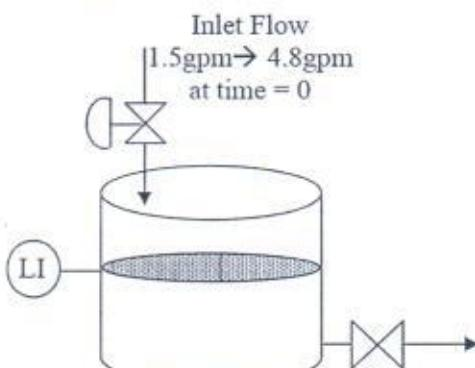

Figure Q.1.[b].[i]
- [b] The level in a tank shown in Figure Q.1.[b].[i] responds as a first order system with changes in the inlet flow. Figure Q.1.[b].[ii] shows the plot of level vs. time that was constructed from data collected after the inlet flow was increased quickly from 1.5 gal/min to 4.8 gal/min. Determine the transfer function that relates the height in the tank to the inlet flow. [7 marks]